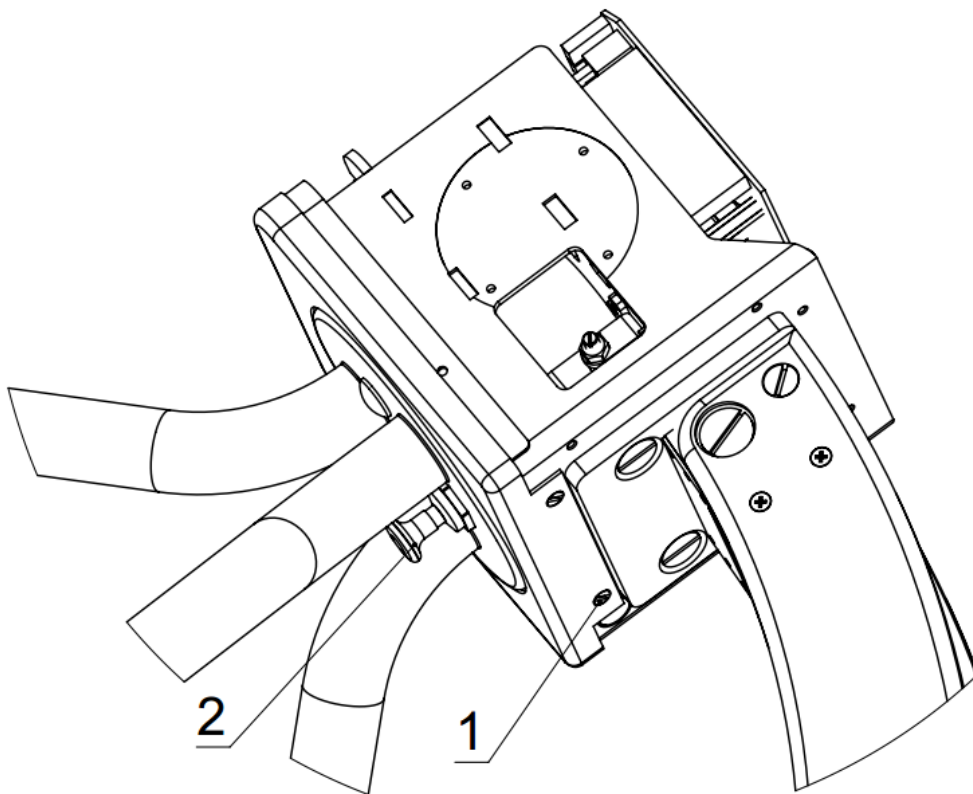
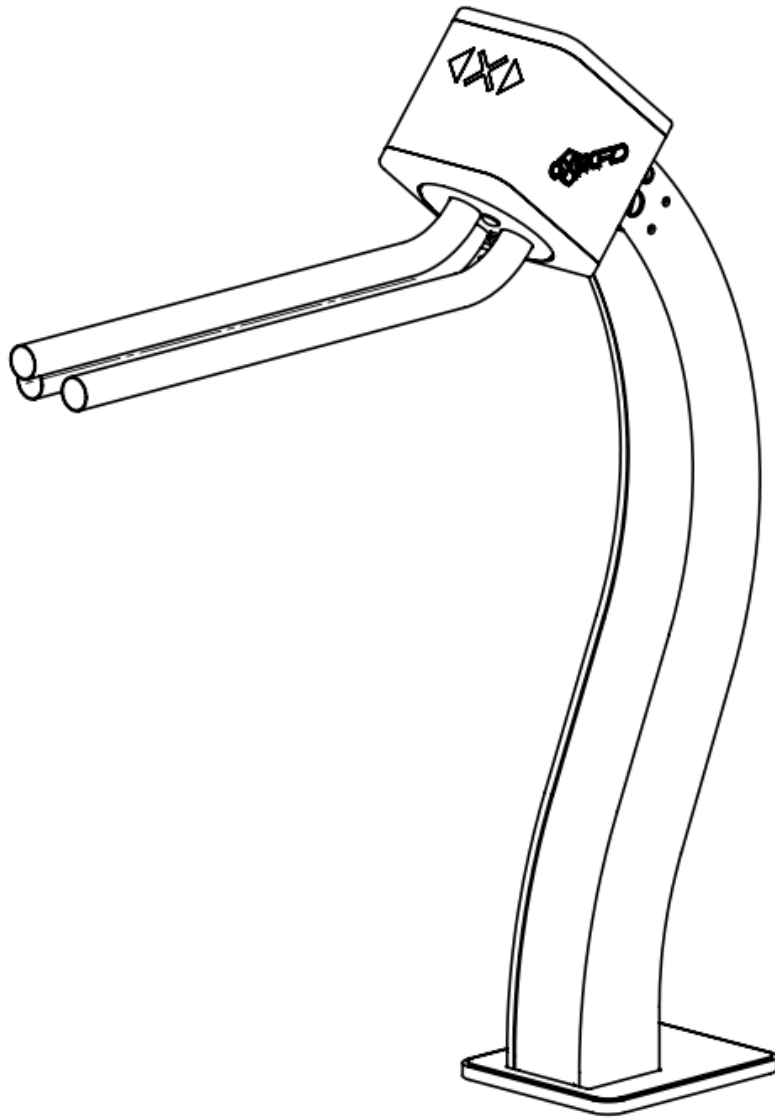
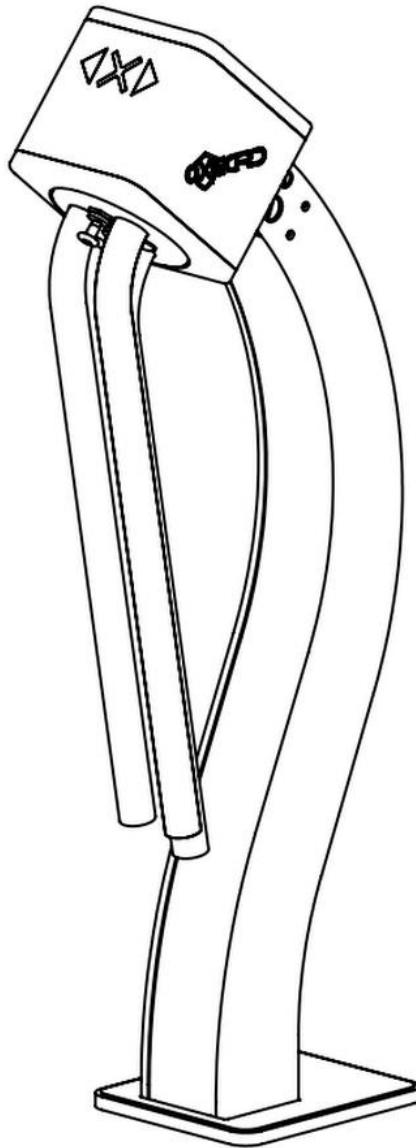

Fig.6.
Fig 7.
Fig. 8.
- retract a fixation lock 2 of the arms (Fig.6), holding one arm by the hand in a fixed position, unfold other arms into operating position.
Switching to this mode is carried out by mechanical way. Switch the turnstile to “Antipanic” mode, to do this press button 4 on the control panel. Pull off fixation limit stop 2 of the arms (Fig.6), holding one arm by hand in a fixed position, rotate the other arm clockwise in such a way that all the arms are aligned (Fig.7). Then tighten further down all the arms folded together (Fig.8)